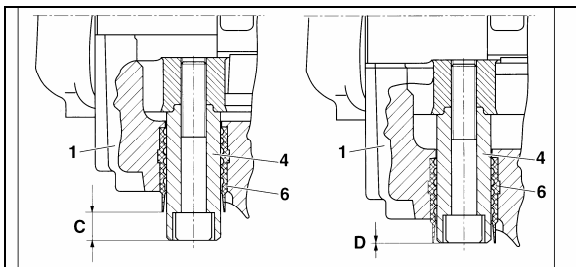

FIGURE 35: BRAKE PAD CHECK
Brake pads have to be checked on a regular basis depending on the vehicle operation. The remaining thickness of the pads should never be less than 3/32 inch (2 mm). To check pad condition without removing the wheel, verify the position of guide bushing (6) relatively to guide sleeve (4) (Fig. 35). When guide sleeve is in alignment with guide bushing, brake pad thickness must be checked more precisely with wheel removed. When replacing the brake pads, all four pads on an axle have to be changed at the same time. There is no inner or outer pad, since all pads are the same. Worn pads should be replaced in the same position.